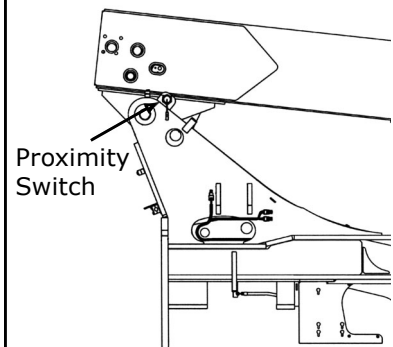

Figure 7-1
- 7.) While keeping clear of the rear wheels, have an assistant check that the red LED on the proximity switch at the right rear of the machine is "glowing". Have the assistant disconnect the proximity switch from the wire harness. The red LED should be "OFF" (see figure 7-1).